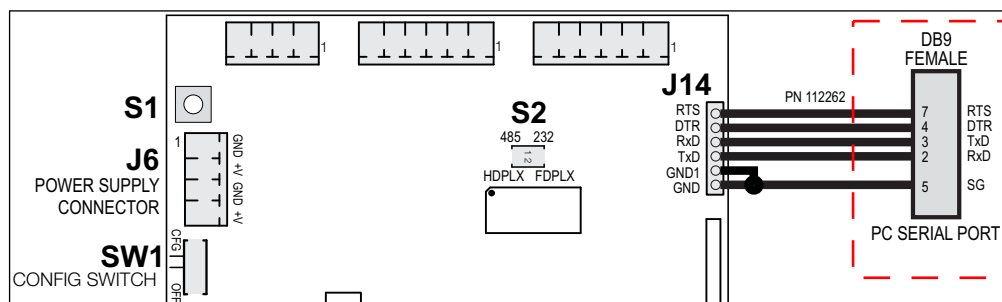

Figure 9-5. Host Connection to iQUBE² CPU Board
4. Connect power to system and place in SETUP mode by moving SW1 to the CFG position (see Figure 9-5 on page 99).
4. Connect power to the system and place it in SETUP mode by moving SW1 to the CFG position (see Figure 9-5 on page 99).
5. Connect power to the system and place it in SETUP mode by moving SW1 to the CFG position (see Figure 9-5 on page 99).